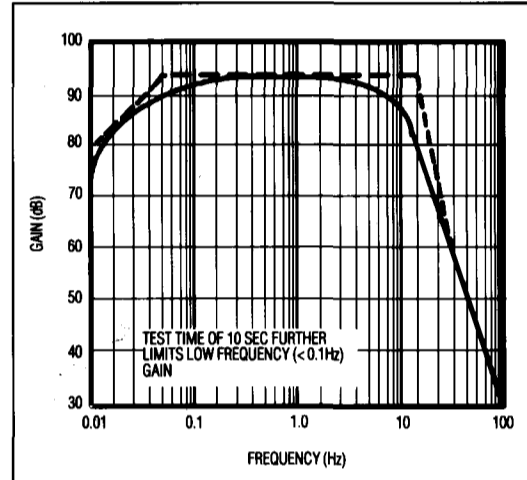

Figure 6. 0.1Hz to 10Hz V_{pp} Noise Tester Frequency Response
3. As shown in Figure 6, the 0.1Hz corner is defined by only one zero. A maximum test time of 10sec acts as an additional zero to eliminate noise contributions from the frequency band below 0.1Hz.